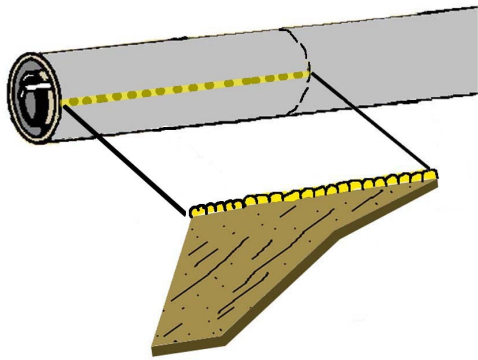

Figure 8
- **Step 10** As shown in Fig. 8, apply a bead of full-strength glue to one of the fin alignment lines, and to the root edge of one fin, directly on top of the existing layer of glue from Step 7. Press the root edge of the fin against the body tube, with the trailing edge of the fin even with the edge of the body tube. Hold the fin in place for about 12 seconds before releasing it. Use a moist, soft-bristle brush to smooth down the glue which squeezes out from the joint. Slide one or more alignment guides over the tube and down over the fin, carefully adjusting the angle to fit the slot. Allow this to dry about 20 minutes, then repeat this sequence for each remaining fin.